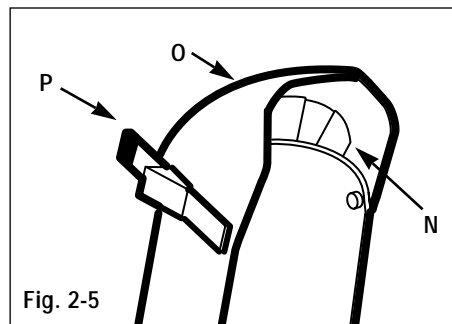

Fig. 2-5
7. Insert the flexible fingers on the plastic snow deflector (N, Fig. 2-5) inside the chute deflector cap (O). Close the deflector cap by pulling the lever (P) outward and moving the deflector cap down. Release the lever to secure the deflector cap in one of the discharge angle selector holes.